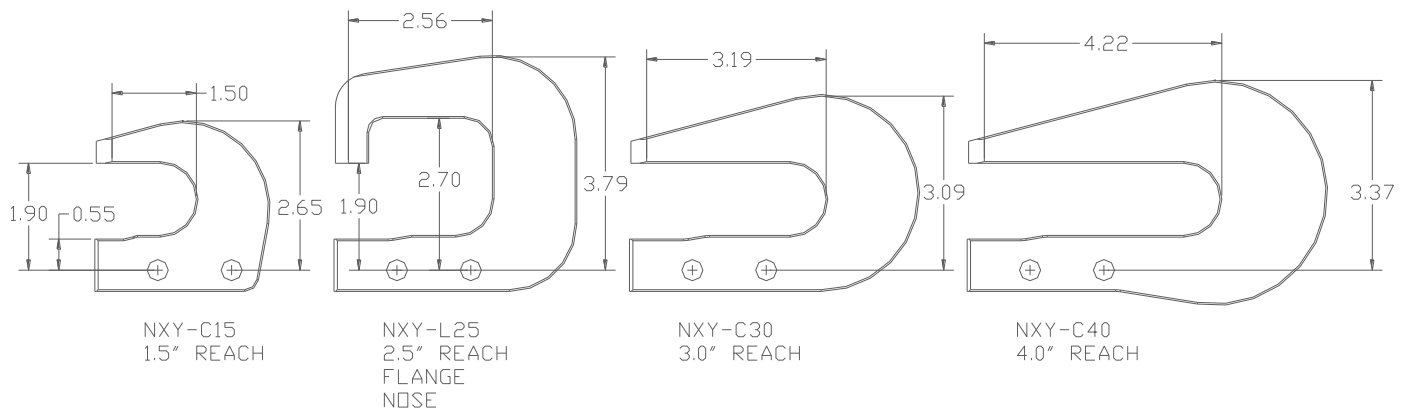

FIGURE 3 – LIGHT-DUTY C-YOKES
- 4.1 Refer to Figure 3 for light duty yokes, suitable for the NXC-4.